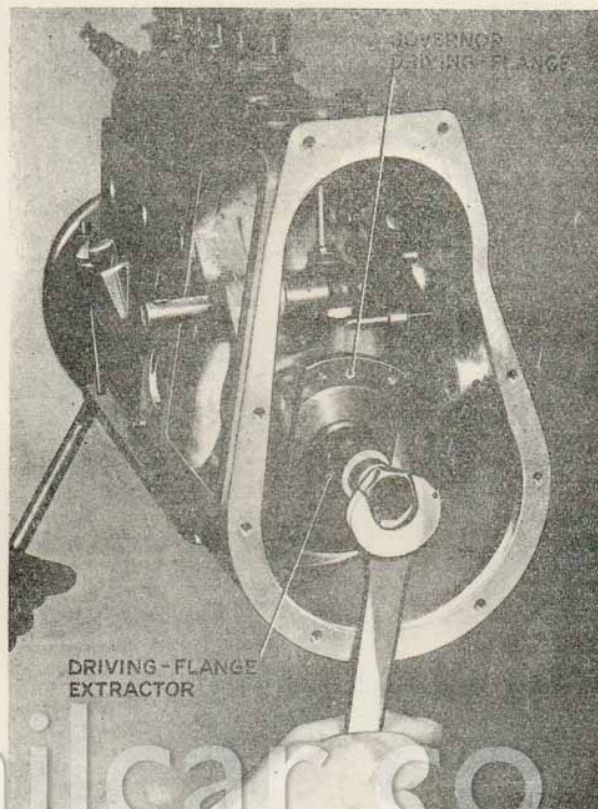

FIG. 47. REMOVING GOVERNOR DRIVING FLANGE.
8. Unscrew nut securing driving centre and using a special drawer (Fig. 47), remove the driving centre.